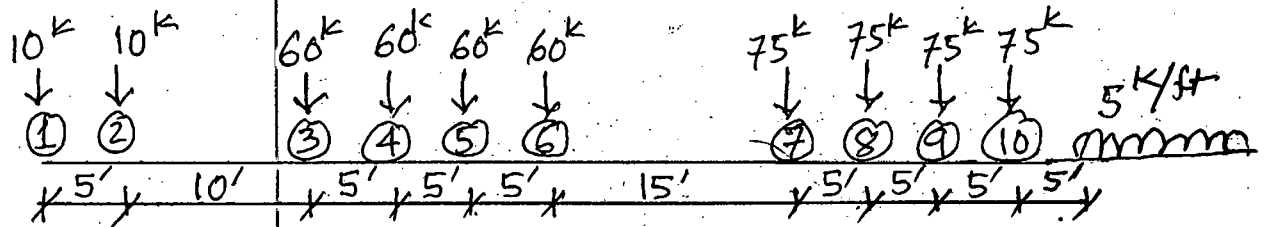

Fig. 5
5. For the wheel loads shown in Fig. 5, find maximum moment at quarter point of a simply supported beam of 80 ft.
6. Compute maximum shear at one-third point of a simply supported beam of 72 ft due to the wheel loads shown in Fig. 5.